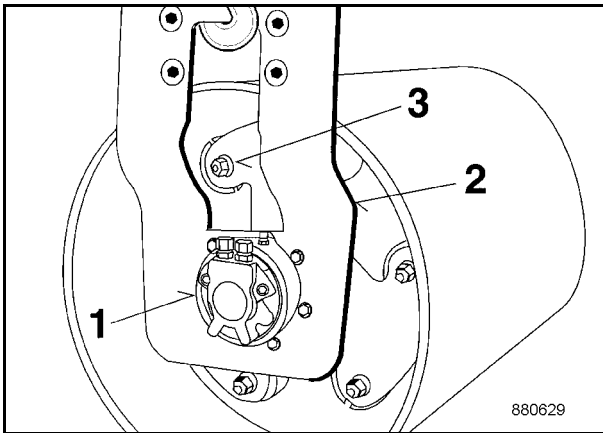

Fig. 23
- 33. Assemble the drum drive motor with drive disc and support leg 2 (Fig. 23) to the drum.
- 34. Attach the drive disc to the rubber buffers and tighten the nuts (3) with 210 Nm.